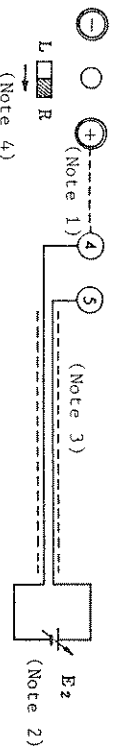

Figure 3-12
- Note 2: o By connecting zener diode D_z ($V_z = 11$ V, 250 mW) between terminals ④ and ⑤ as shown in Figure 3-12, the output current can be limited at approximately 110% of the rated current even when the external resistance signal circuit